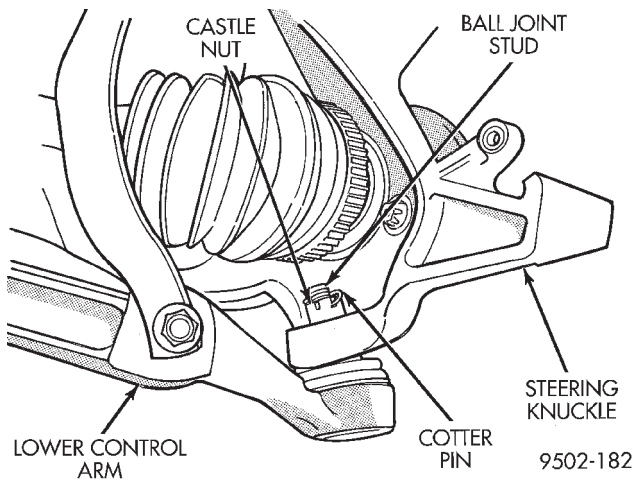

Fig. 16 Lower Ball Joint to Steering Knuckle Attachment
(7) Install the steering knuckle to ball joint stud castle nut (Fig. 16). Tighten the castle nut to 95 N·m (70 ft. lbs.).